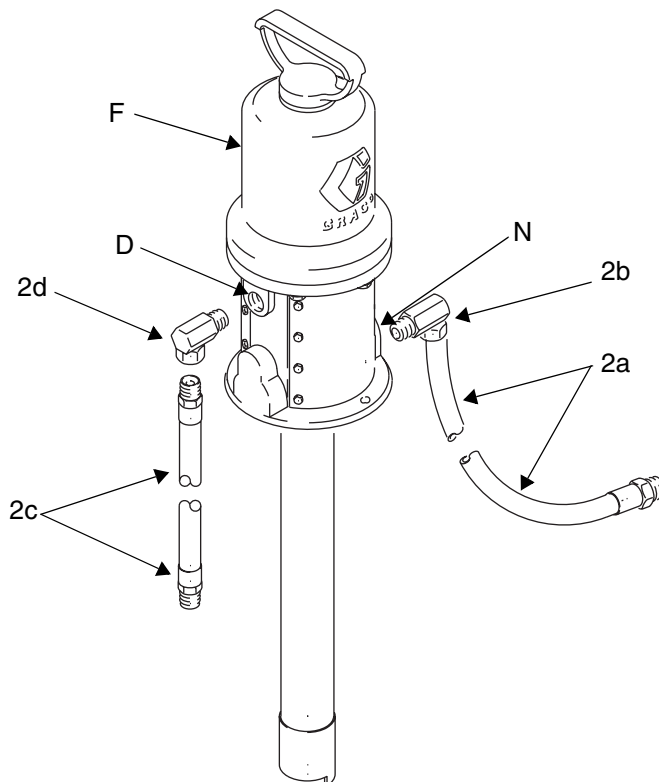
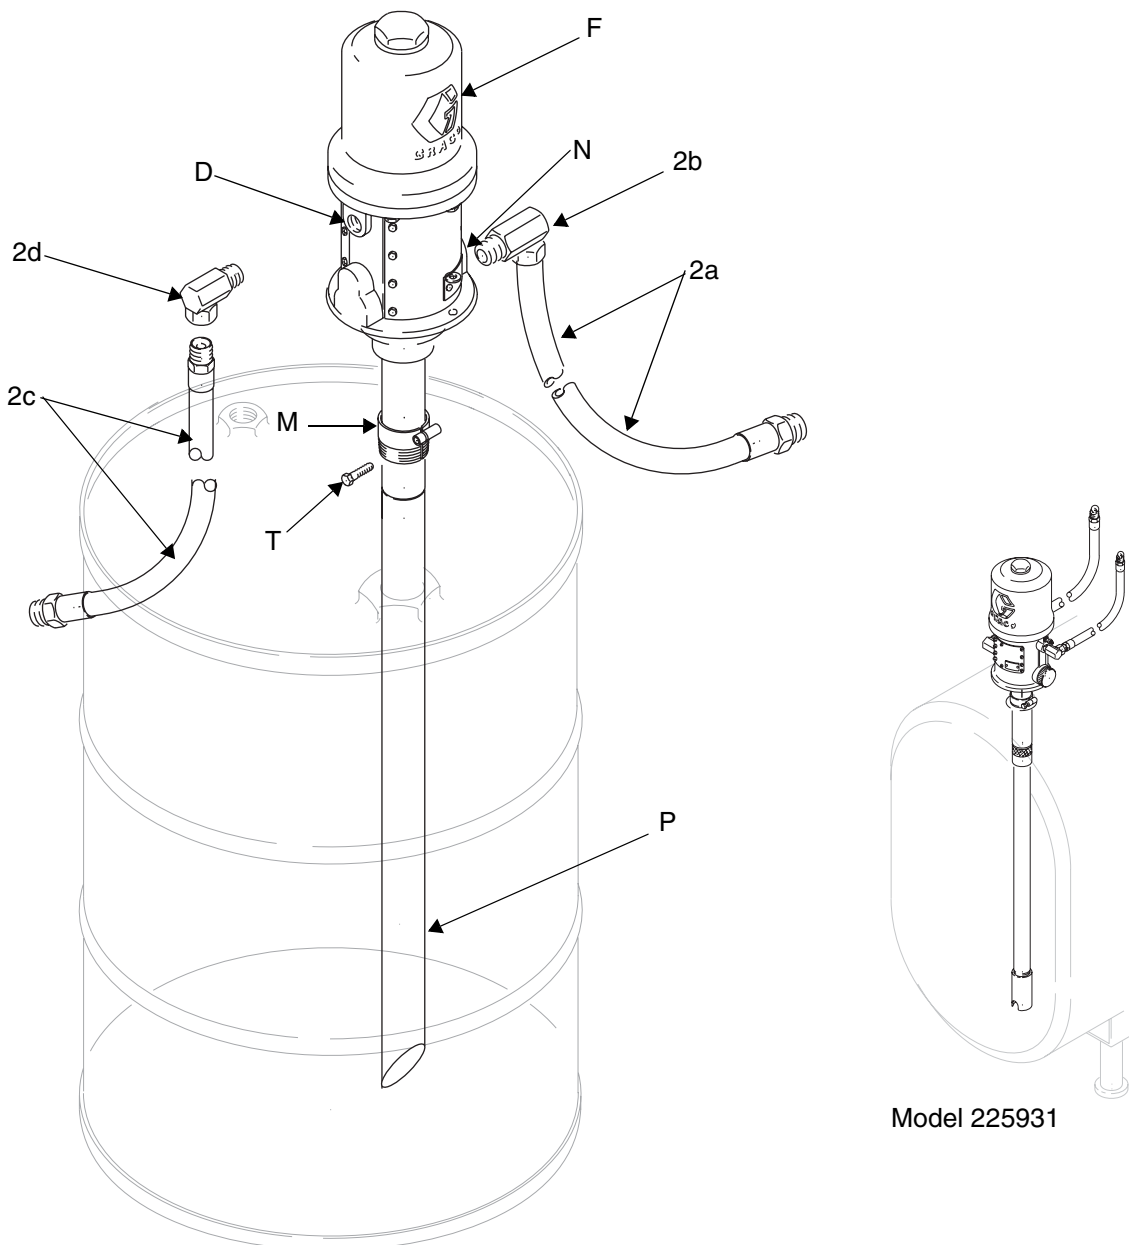

FIG. 3
FIG. 7
Letters used to identify components in FIG. 1 are referred to in the package installation drawings, FIG. 3 through FIG. 7. Additional letter references are used in installation drawings as necessary.
1. Screw the bung adapter (M) into the bung hole of the drum. See FIG. 7.
2. For 246907 cut the extension tube (P) at a 45° angle to a length appropriate for the size of the drum. When installed, the bottom of the angle should be about 1" (25 mm) from the bottom of the drum. For 224640 and 225931 the down tube is sized for the container.
3. Tighten the bung adapter screw (T) to hold the pump in position.
4. Apply thread sealant to the male threads of the 3/8 npt swivel union (2d). Screw the union into the pump air inlet (D).
5. Apply thread sealant to the male threads of the 1/2 npt swivel union (2b). Screw the union into the pump fluid outlet (N).